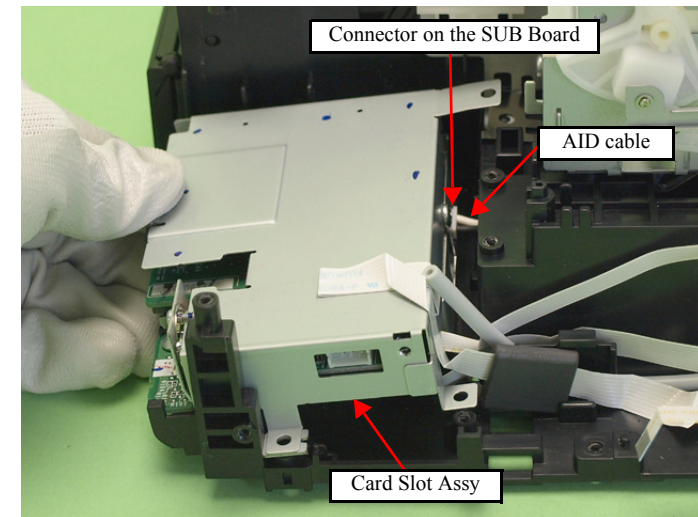

Figure 4-190. Removing the Card Slot Assy (2)
- Connect the AID cable properly to the connector on the SUB Board. (See Fig. 4-190.)